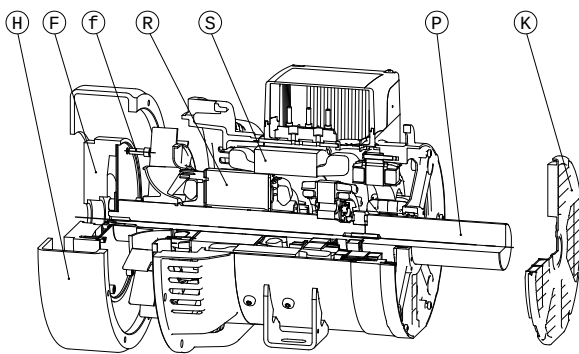

fig. 1
- 1) Remove the air inlet grid **K** (fig. 1)
- 2) Partially remove the rotor **R** by tapping the end of the extension rod **P** (fig. 1) with a plastic mallet, taking care not to cause the rotor **R** to completely come out of the stator **S**. Completely remove the rotor **R** from the stator **S** only if strictly necessary. The extension rod **P** can be used to keep all the components in axial alignment during both the removal and the assembly phase, in this way lowering the risk of damaging the windings
- 3) Bring the disk of the rotor **R** to the flywheel **F**, taking care to correctly line up the holes in which to insert the fixing screws **f** (fig. 1). Use screws of minimum 8.8 (metric) or minimum grade 5 (UNC) resistance class
- 4) Insert the disk of the rotor **R** into the housing on the flywheel **F** and then screw down all the fixing screws **f** (fig. 1). The recommended tightening torques are shown in the respective table